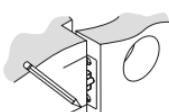

Figure 4a
- Mark center hole on edge of jamb even with the center of the Latch Bolt on door edge. (Figure 4a).
a. If the hinges are on the left your door is Left Handed (Figure 4a).